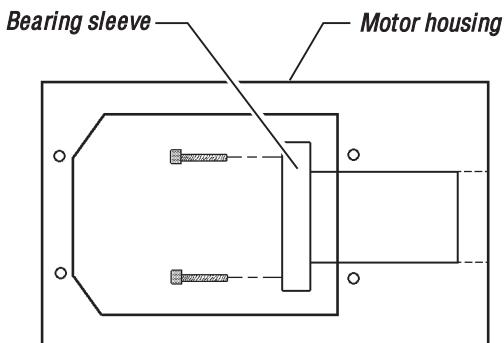

Figure 10-1. Bearing sleeve mounting location.
10. Loosen the six SHCS and remove the bearing sleeve from the motor mount (Fig. 10-1). Push on the opposite end of the lead screw to loosen.